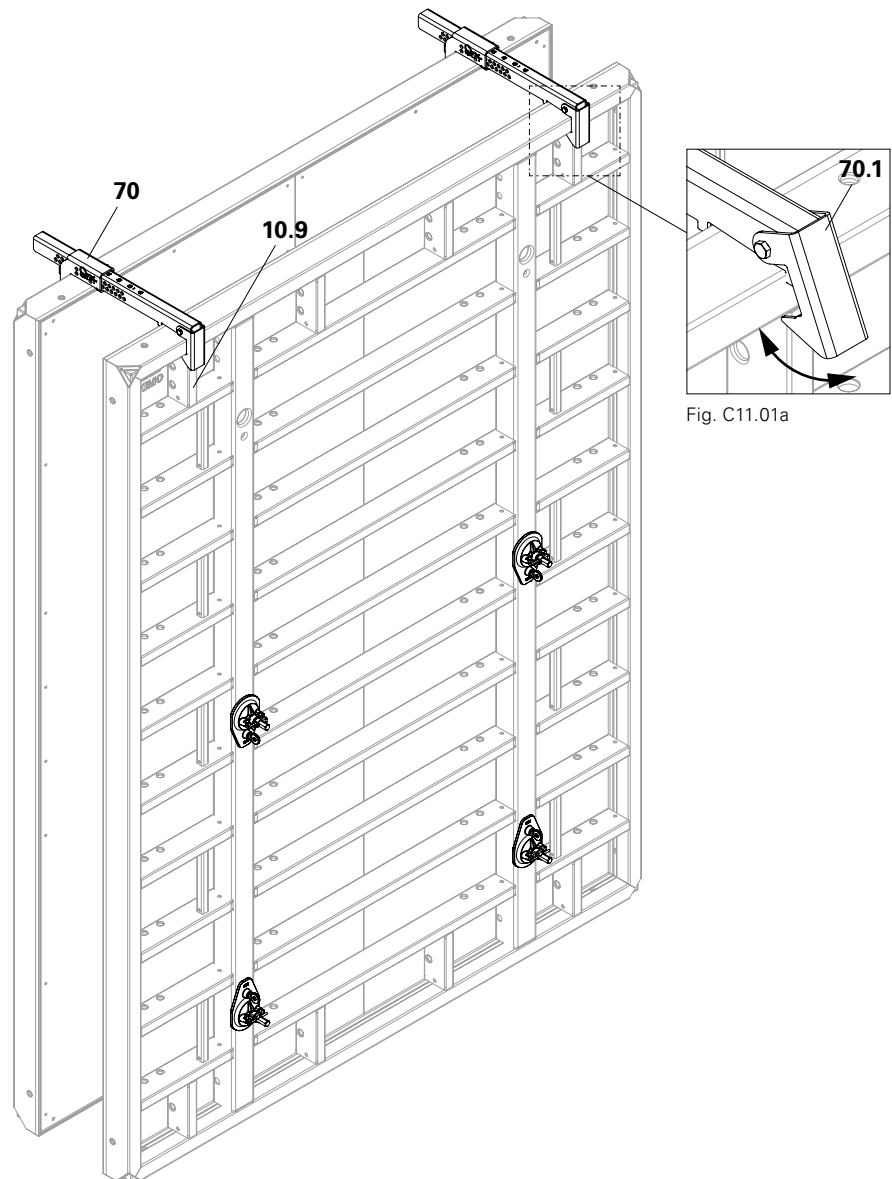

Fig. C11.01
The panel is braced through the use of two Tension and Compression Braces (70). (Fig. C11.01)